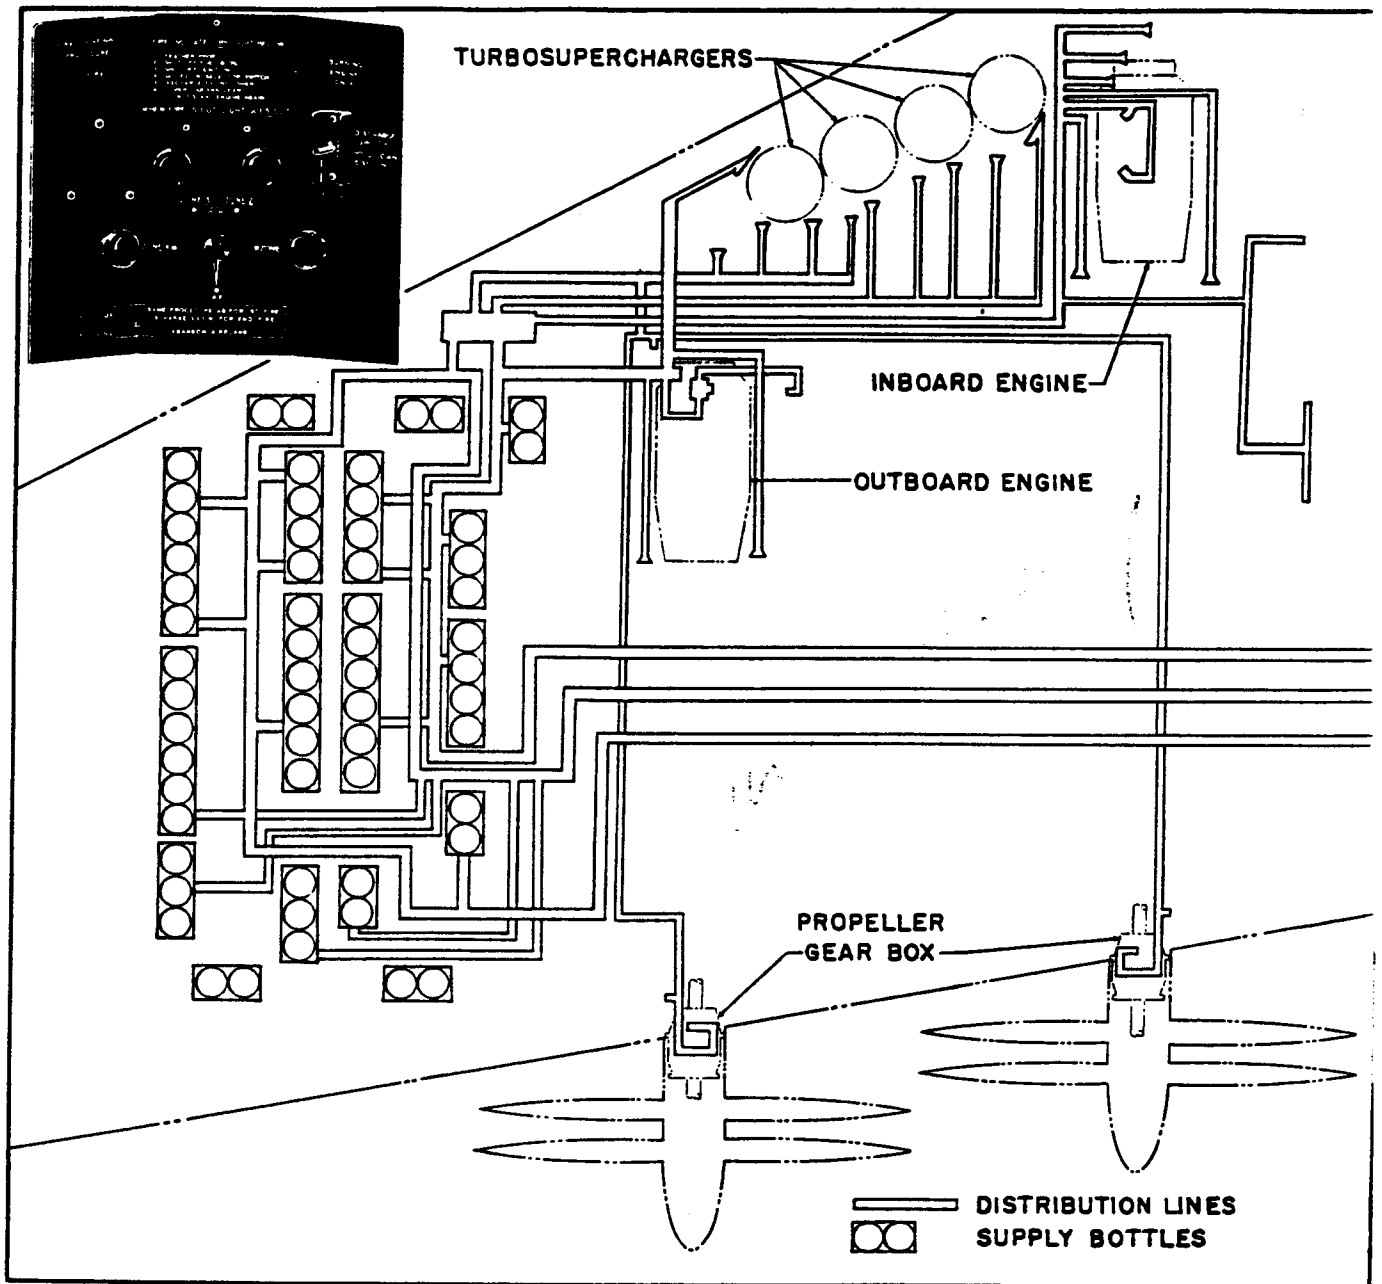

Figure 27. Engine Section Fire Extinguisher System
49. ENGINE SECTION FIRE EXTINGUISHER SYSTEM. (See figure 27.)- A "two shot" carbon dioxide fire extinguisher system is provided for the control of fires occurring in the engine sections, including the areas around the turbo-superchargers and the propeller gear boxes. The fire control panel (See 13, figure 24) is located immediately below the engineer's instrument panel. Four indicator lights, a fire zone selector switch, and a double throw discharge switch are located on the panel. A fire will illuminate a respective indicator light to which the selector switch must be turned to before using the discharge switch. For a first fire the discharge switch must be